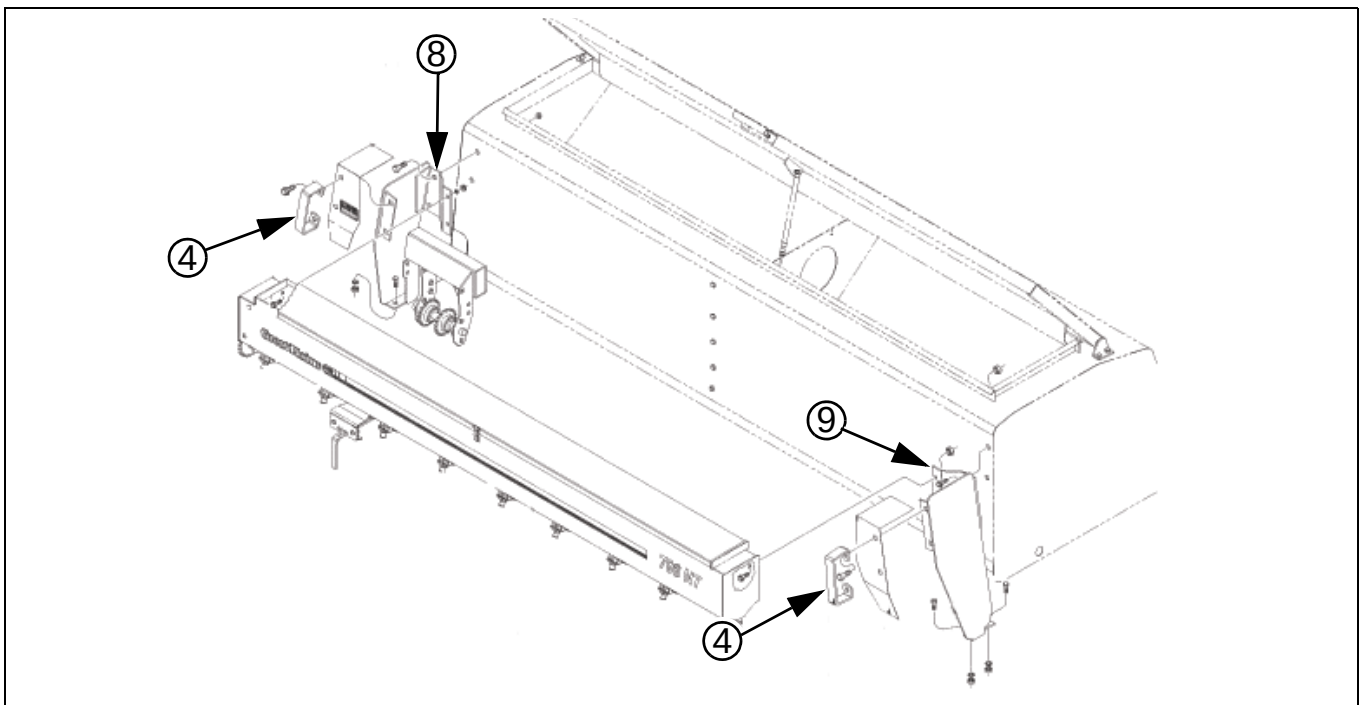

Figure 2
2. Remove ladder ①, ladder mounting bracket ②, and walkboard ③. Save removed items and hardware. Discard ladder mounting bracket ②.
3. Remove and save both box handles ④ and related hardware.
4. Use new walkboard supports ⑤a and ⑤b. Install new walkboard supports to the drill frame end panels with new hardware ($\frac{1}{2}$ x $1\frac{1}{4}$ bolts, lock washers and nuts).
5. Attach the small grass seed box to the back of the drill box as shown in Figure 2 through the mounting brackets ⑧ and ⑨. Use $\frac{1}{2}$ " x $1\frac{1}{2}$ " bolts and $\frac{1}{2}$ " flange lock nuts to attach to the box. Use $\frac{1}{2}$ " x $1\frac{1}{4}$ " bolts, $\frac{1}{2}$ " lock washers and $\frac{1}{2}$ " nuts to attach the bracket to the drill frame and walkboard supports.
6. Mount handles ④ to the back of the small seeds box using hardware saved from Step 3.